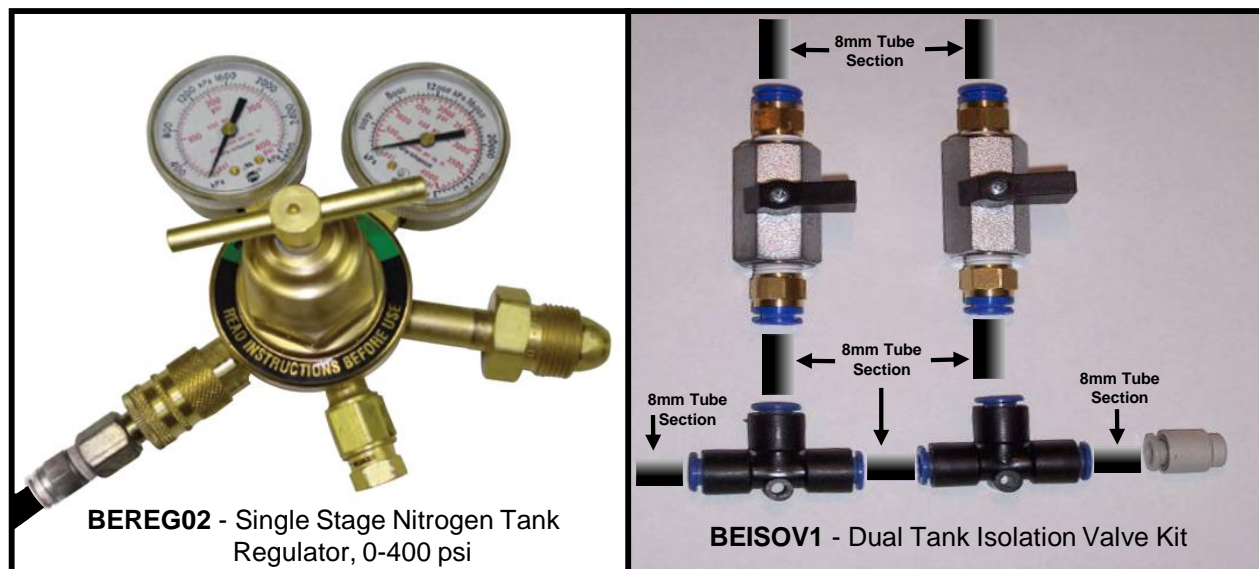

Figure 30
12.1 If the Fiber Bundle blowing distance will exceed the normal capacity of one (1) gas Tank, two (2) Tanks may be connected together to Double the Available Volume of Air. The "Installer Provided" equipment requirement; two (2) gas Tanks, two (2) Pressure Regulators (BEREG02), and a Dual-Tank Isolation Valve Kit (BEISOV1). **See Fig. 30.**